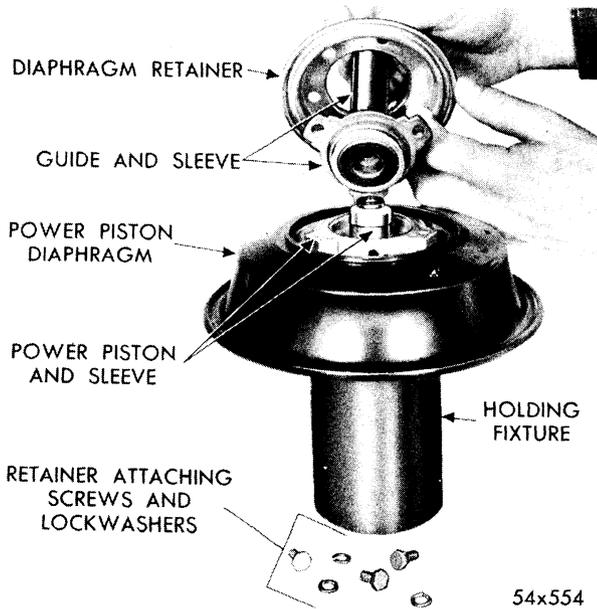

Fig. 77—Removing Guide Assembly from Power Piston Assembly
- (3) Refer to Figure 77 and lift guide assembly off power piston assembly. Remove and discard "O" ring seal from between these two assemblies.
- (9) Position diaphragm retainer over guide and sleeve assembly, with three of the six holes in the retainer lined up with the three holes in the guide. (Refer to Fig. 77.)
- (10) Position diaphragm on flange of power piston and sleeve assembly with flange of diaphragm down. Be sure that inside diameter of diaphragm is nested snugly all around in groove of power piston flange.
- (11) With power piston diaphragm retainer and guide assembly held directly above power piston assembly, insert push rod WITHOUT RETAINING CLIP through